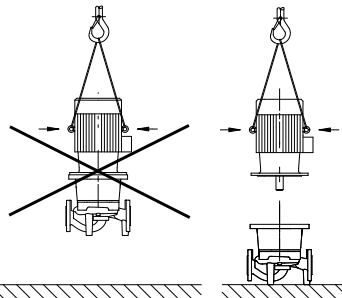

Fig. 6: Transporting the motor
- The transport eyes on the motor are only for transporting the motor, and are not approved for transporting the complete pump (Fig. 6).